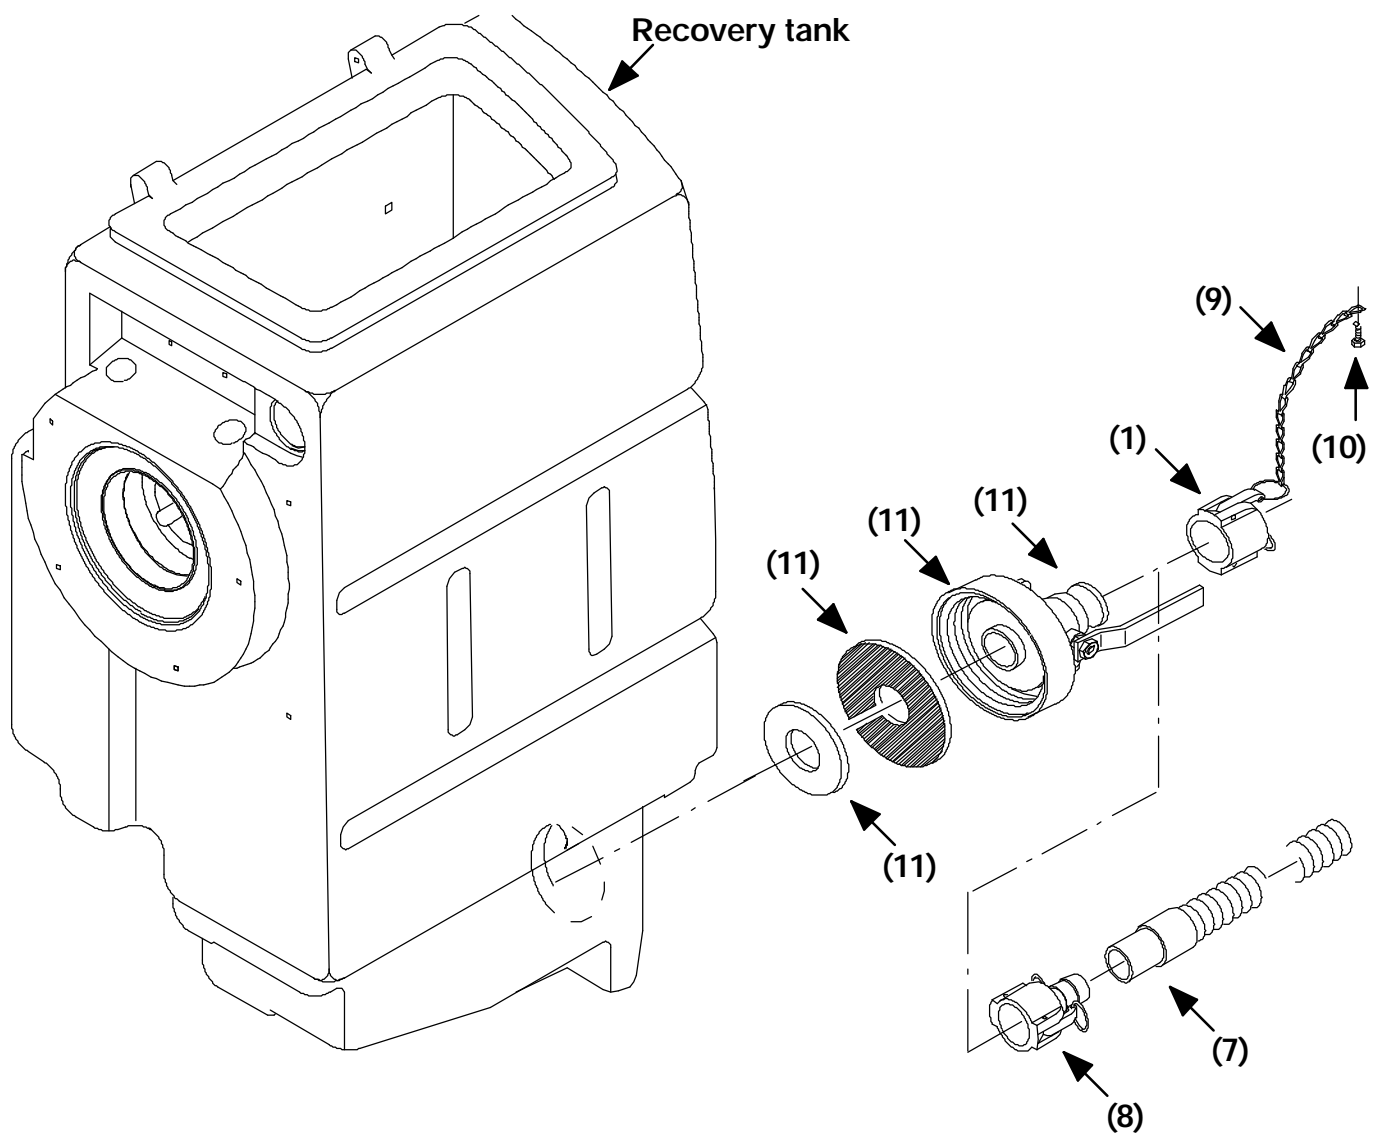

FIG. 1 - Recovery Tank Drain Cap Assembly
(Refer to FIG. 1, 2 and 3)
1. Make sure the solution and recovery tanks are empty. (Refer to FIG. 1, 2 and 3)
2. Remove and discard the cap assemblies from the both tank drains. (Refer to FIG. 1)
3. Install the new positive drain cap assemblies onto both tanks. (Refer to FIG. 1)
5. Use the M4 hex screws (10) to attach the Dust cap (1) chain (9) to the new bumper (2). (Refer to FIG. 1)